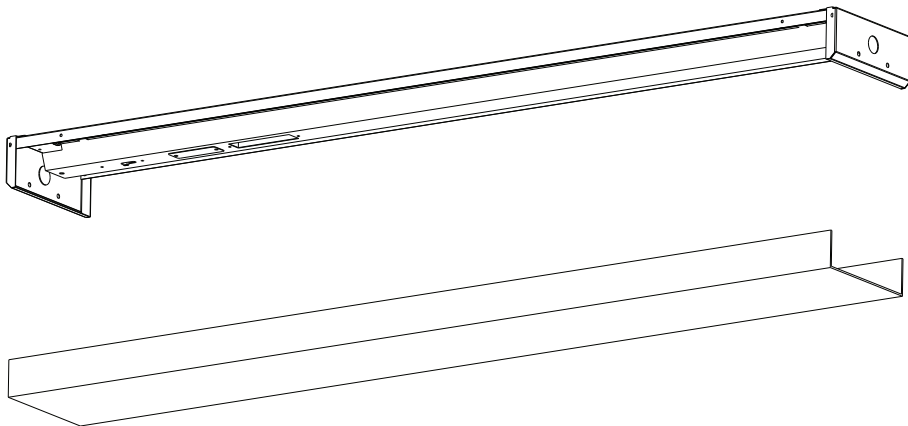

Fig. 1
1. Remove the lens to access the USB-C receptacle. (see **Fig. 1**).